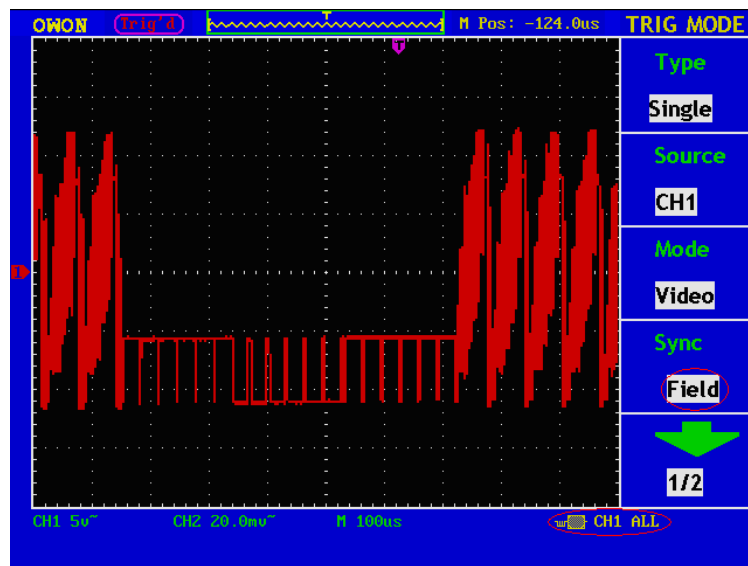

Fig.6-7 Wave Form Obtained from Video Field Trigger
6. Adjust the **VOLTS/DIV**, **VERTICAL POSITION** and **SEC/DIV** knobs to obtain a proper wave form display (see Fig.6-7).